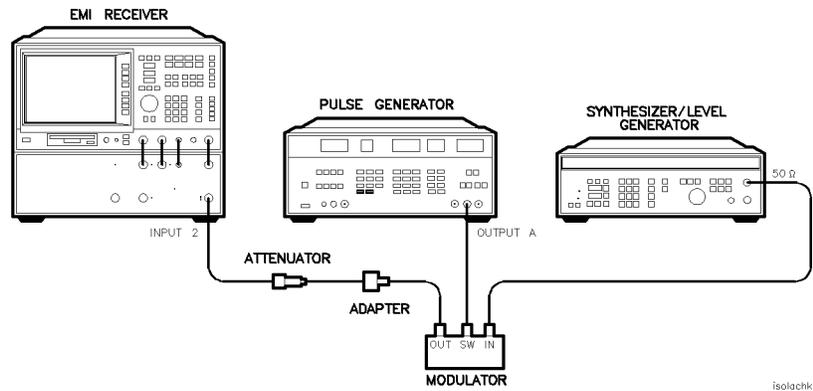

Figure 2-21. Isolation Check Test Setup
11. Connect the equipment as shown in Figure 2-21.